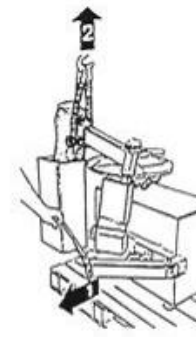

Fig.5-2
② Open the bead breaking arm as shown in Fig.5-2(1) and raise the column with a hoist (2).